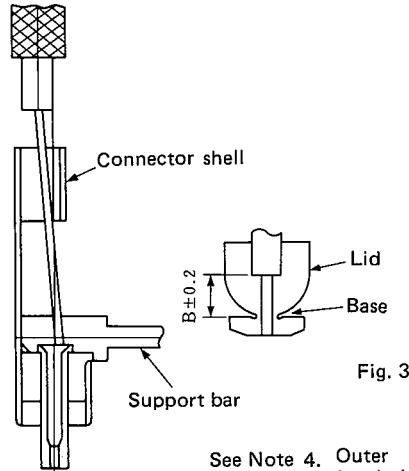

Fig. 3
- Pass the cable center conductor through the connector shell, as shown in Figure 3. Then insert the center conductor into the hole in the male terminal while making sure that the connector shell passes between the outer conductor and the cable insulation. Insertion will be completed when the cable insulation reaches the section of dimension "B" specified in the table below.